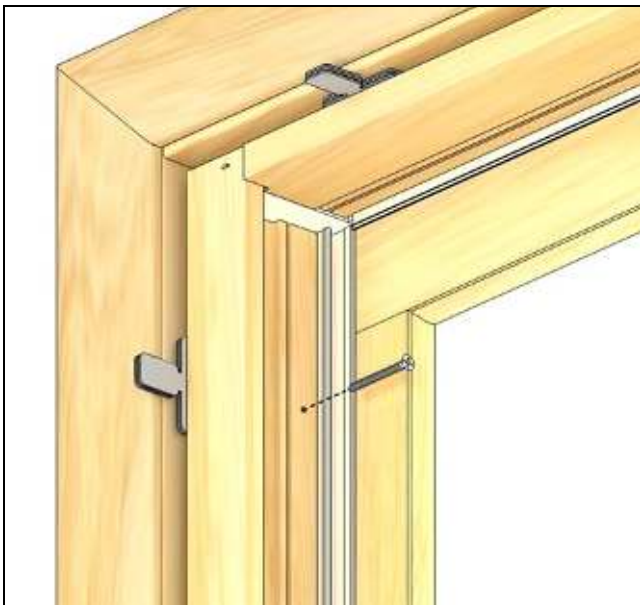

Figure 20
2. Insert #8 x 3" T20 Torx pan head into pre-drilled screw holes and tighten with a power driver/drill. Be sure shims are placed near every screw location to avoid bowing of jambs. Do not over-tighten screws. Check frame for squareness. Adjust as necessary by either loosening or tightening screws. See Figure 20.